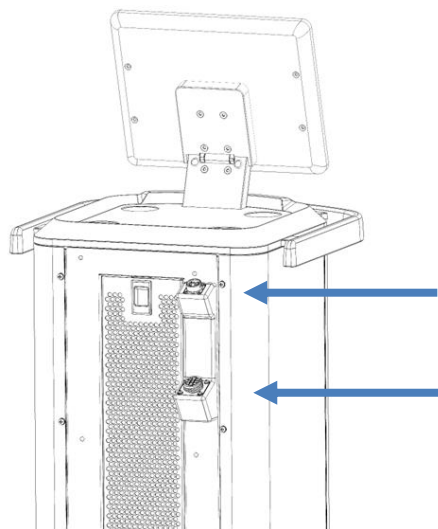

Figure 4-1: Two RF Connectors on the Rear Panel (Arrows)Front Panel and Operator Control Panel
- Connect the Handpiece to the Connector on Front or Rear Panel (Fig 4.1 or 4.2) and place in the Cradle.
RF Handpiece Connectors	<p>Located on the upper right side of the Rear Panel and connects to one of RF Handpieces (Forma -I – upper Connector) or to Morpheus8 – lower Connector) through two types of Connectors (Figure 4.1).</p>